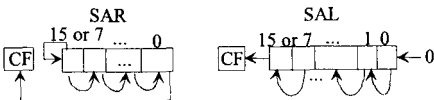

FIGURE 9.5 8086 SAR and SAL instructions
- Figure 9.5 shows SAR mem/reg, CNT or SAL mem/reg, CNT. Note that a true arithmetic left shift does not exist in 8086 because the sign bit is not retained after execution of SAL. Also, SAL and SHL perform the same operation except that SAL sets OF to 1 if the sign bit of the number shifted changes during or after shifting. This will allow one to multiply a signed number by 2ⁿ by shifting the number n times to left; the result is correct if OF = 0 while the result is incorrect if OF = 1. Since the execution time of the multiplication instruction is longer, multiplication by shifting may be more efficient when multiplication of a signed number by 2ⁿ is desired.